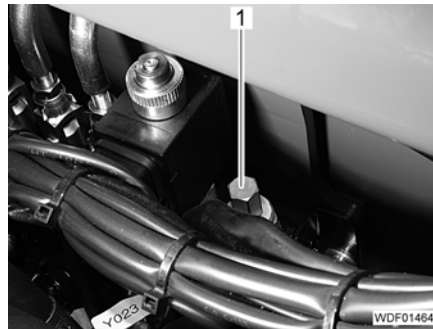

Fig. 41 Cap adjustment screw
- Unscrew cap (Fig. 41,1) of the primary pressure limiting valve on the control valve.
- Screw cap (Fig 41,1) onto the primary pressure limiting valve and tighten.